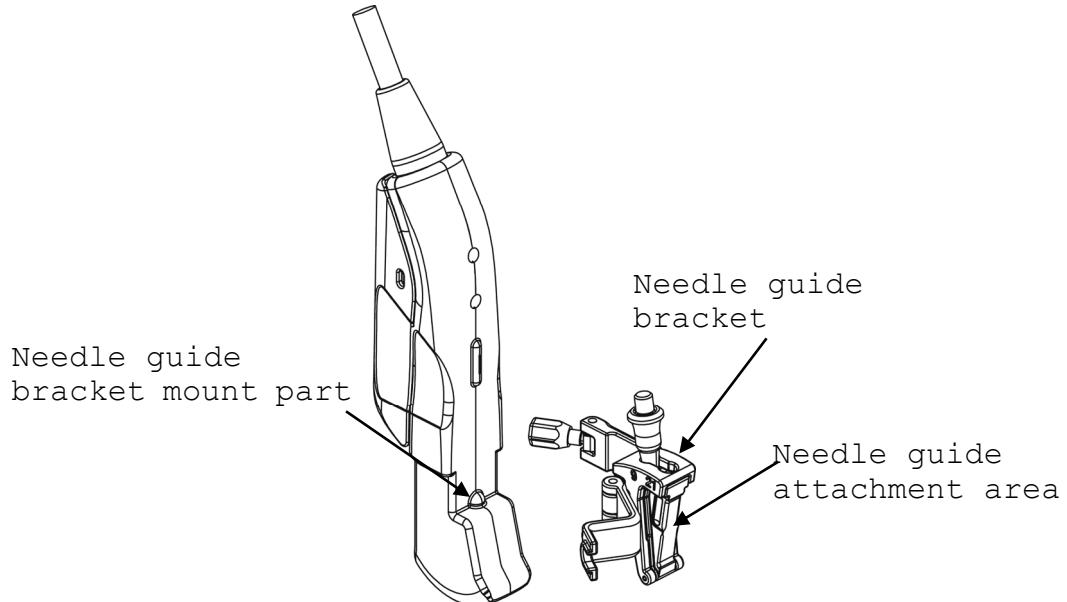

Fig. 6 Position for mounting the needle guide bracket
- 1) Insert the recess of needle guide bracket to the needle guide bracket mount part. (See Fig. 6)